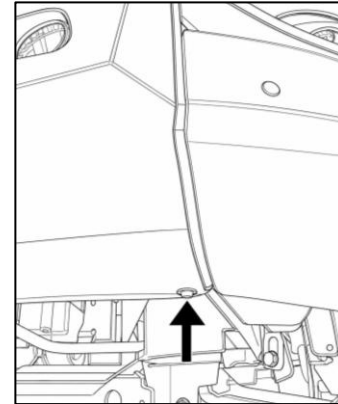

Figure 25: Lower Tray Mounting Bolt Location
30. ☐ Reinstall the grille, locate into the grille tabs on the bumper and reinstall the (3) OEM screws along the top of the grille using a T25 driver.
31. ☐ Using four 1/4" fender washers (70039), two 1/4-20 x 1" bolts (70060), and two 1/4-20 SS nuts (70008), bolt the lower tray of the bumper to the factory plastic bumper. **See Figure 25.**